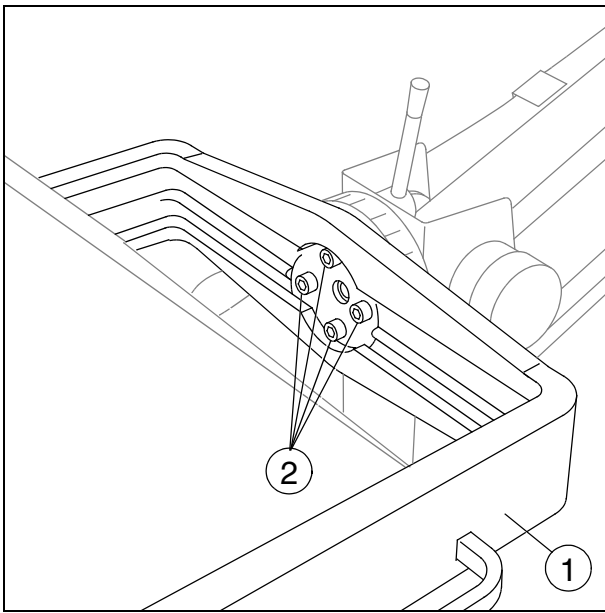

Fig. 2
- The single tank holder (1/Fig.2) including the single tank must fit securely on the flange of the support arm.
- Check the torque of the 4 mounting screws (2/Fig.2);